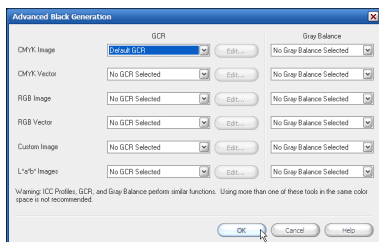

Figure 11—Advanced Black Generation
- **Advanced Black Generation**—click **Advanced Black Generation** on the Output Tab to access the Advanced Black Generation dialog. This dialog includes both GCR and Gray Balance options. Use the drop-down menus to add GCR tables and Gray Balance profiles for your data type. For GCR options, you can select No GCR Selected, Default GCR, or Custom GCR. For Gray Balance options, you can select No Gray Balance Selected and Default Gray Balance (see Figure 11).